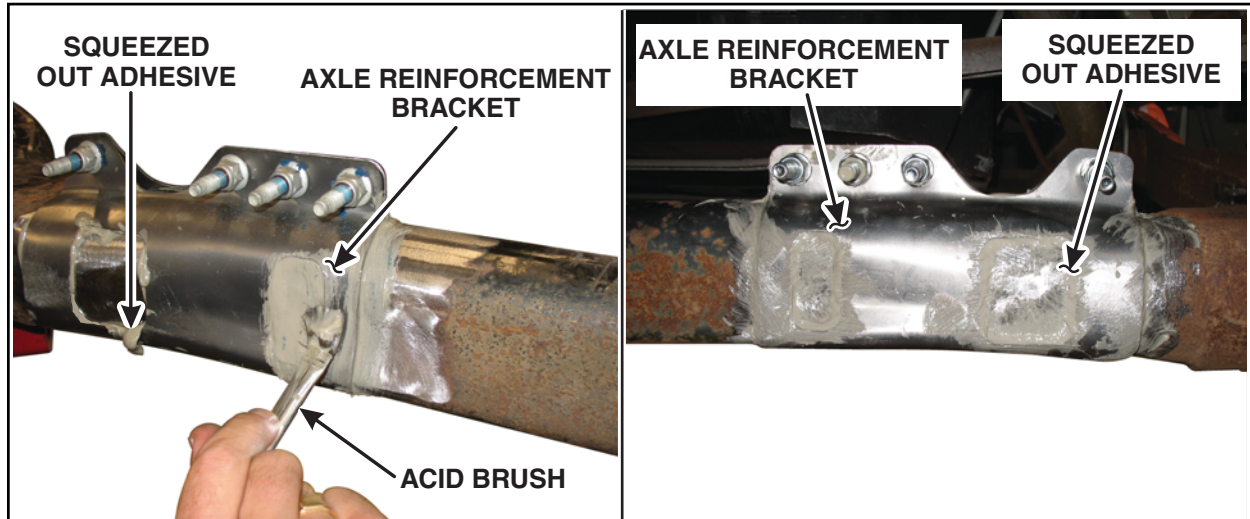

FIGURE 9
13. Brush the squeezed out adhesive around all edges of the axle reinforcement brackets with an acid brush to ensure all openings are completely sealed. See Figure 9.